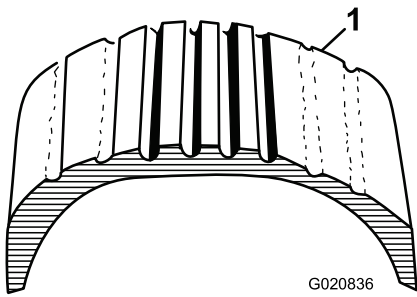
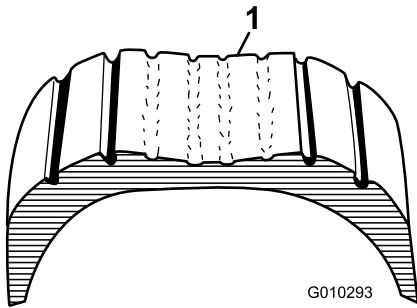

Figure 55
Figure 56
1. Visually inspect the tires for damage and wear (Figure 55 and Figure 56).